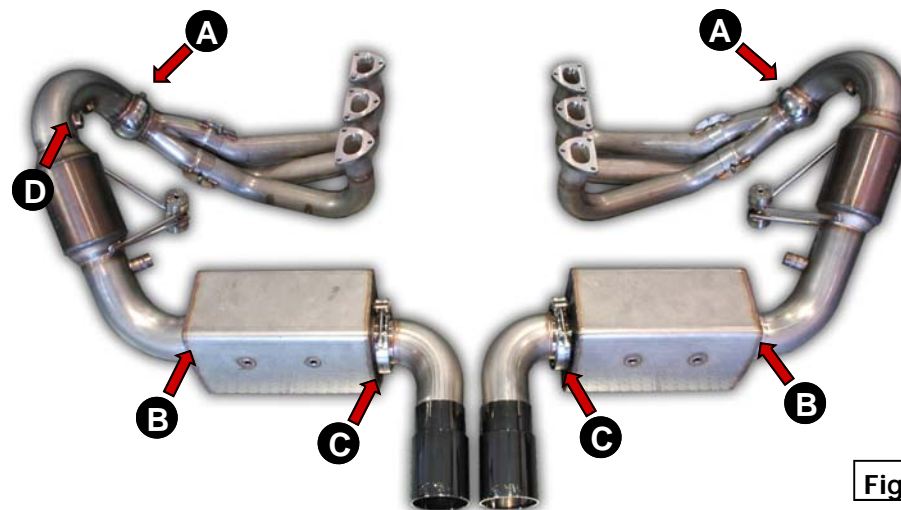

Figure 1
**Step 3:** Install AWE Tuning header sections (driver and passenger side specific), reusing factory cylinder head bolts. Loosely install an olive/clamp assembly on the outlet of each header (at Arrows A in Figure 1 below).
**Step 4:** Install AWE Tuning catalytic converter sections. Reinstall factory O2 sensors, making sure the primary O2 sensor installs before the catalytic converter on each side. Reuse the factory mounting bolts to attach AWE catalytic converter sections to factory the mounting points that were used for the fender well mufflers. Install the O2 sensor port cap into the additional O2 sensor port (At Arrow D in Figure 1 below). This additional port can be used for air/fuel monitoring via an additional on board gauge or on a chassis dynamometer.
**Step 5:** Install AWE Tuning muffler sections (without tailpipes or tips) on the factory rear muffler bracket still attached to the engine, using the supplied muffler straps. Use two of the 3.00" t-bolt band clamps to fasten the muffler cans to the catalytic converter sections (at Arrows B in Figure 1 below). Leave these clamps and the muffler straps loose at this time. Using the enclosed V-band clamps (at Arrows C in Figure 1 below), attach the tailpipes to the muffler cans.